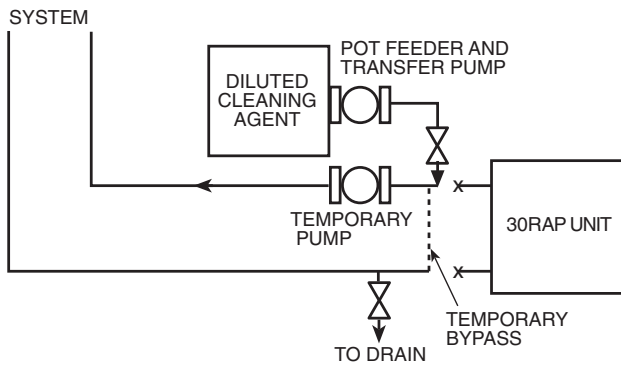

Fig. 26 — Typical Set Up for Cleaning Process
1. Install a temporary bypass around the chiller to avoid circulating dirty water and particulates into the pump package and chiller during the flush. Use a temporary circulating pump during the cleaning process. Also, be sure that there is capability to fully drain the system after cleaning. (See Fig. 26.)